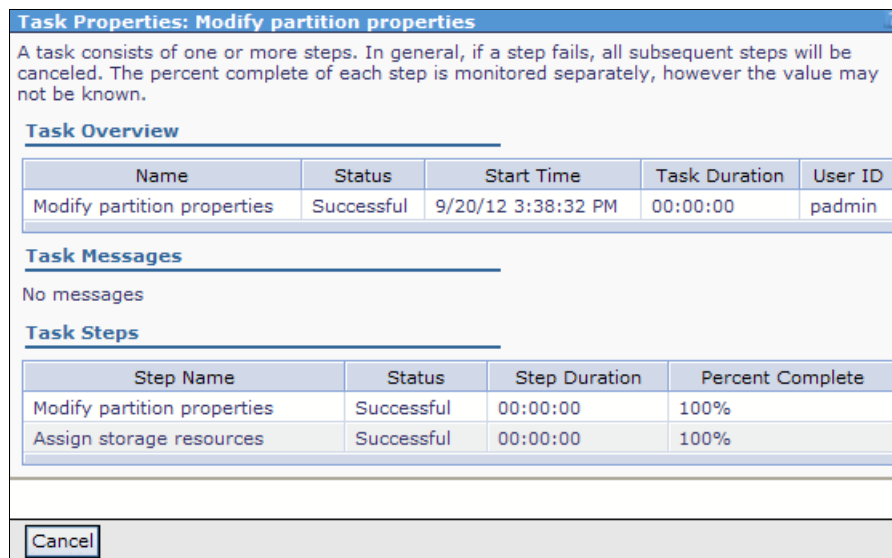

Figure 4-53 Task Properties
3. Click **Properties**. The Task Properties window opens, as shown in Figure 4-53.